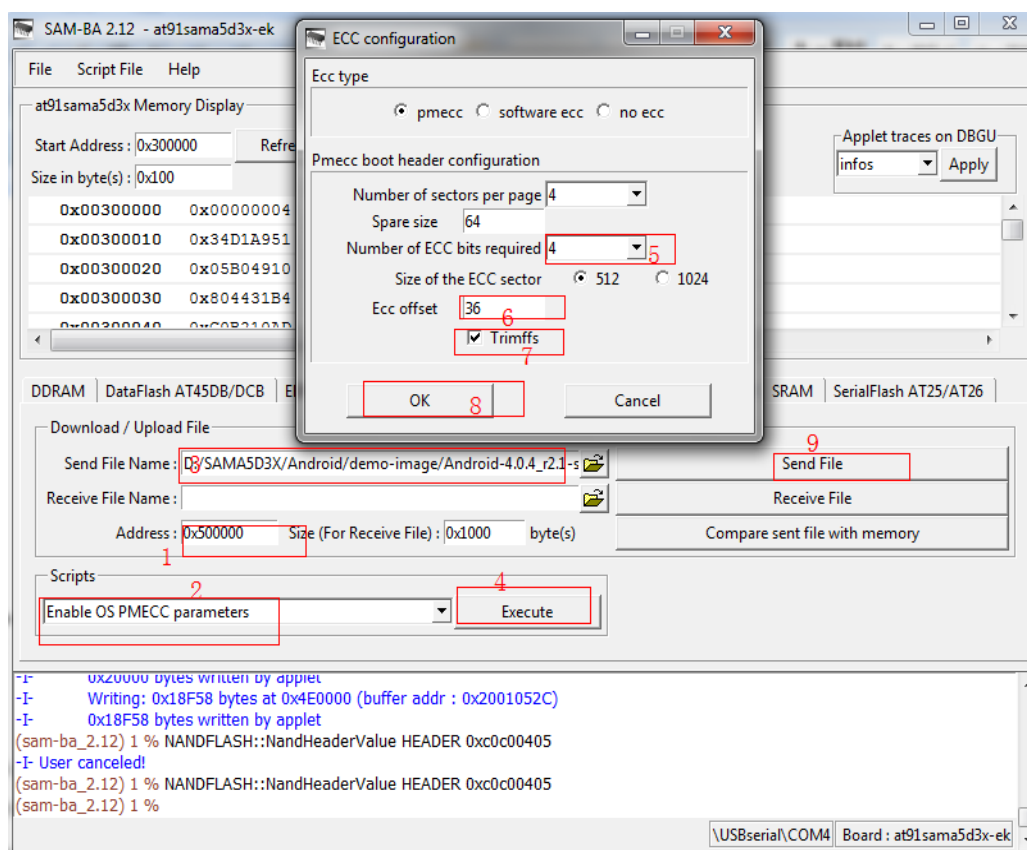

Figure 4-16
(11) Download [rootfs.ubi] to 0x0050 0000. Refer to figure 4-16 (Note: be sure to check Trimffs):